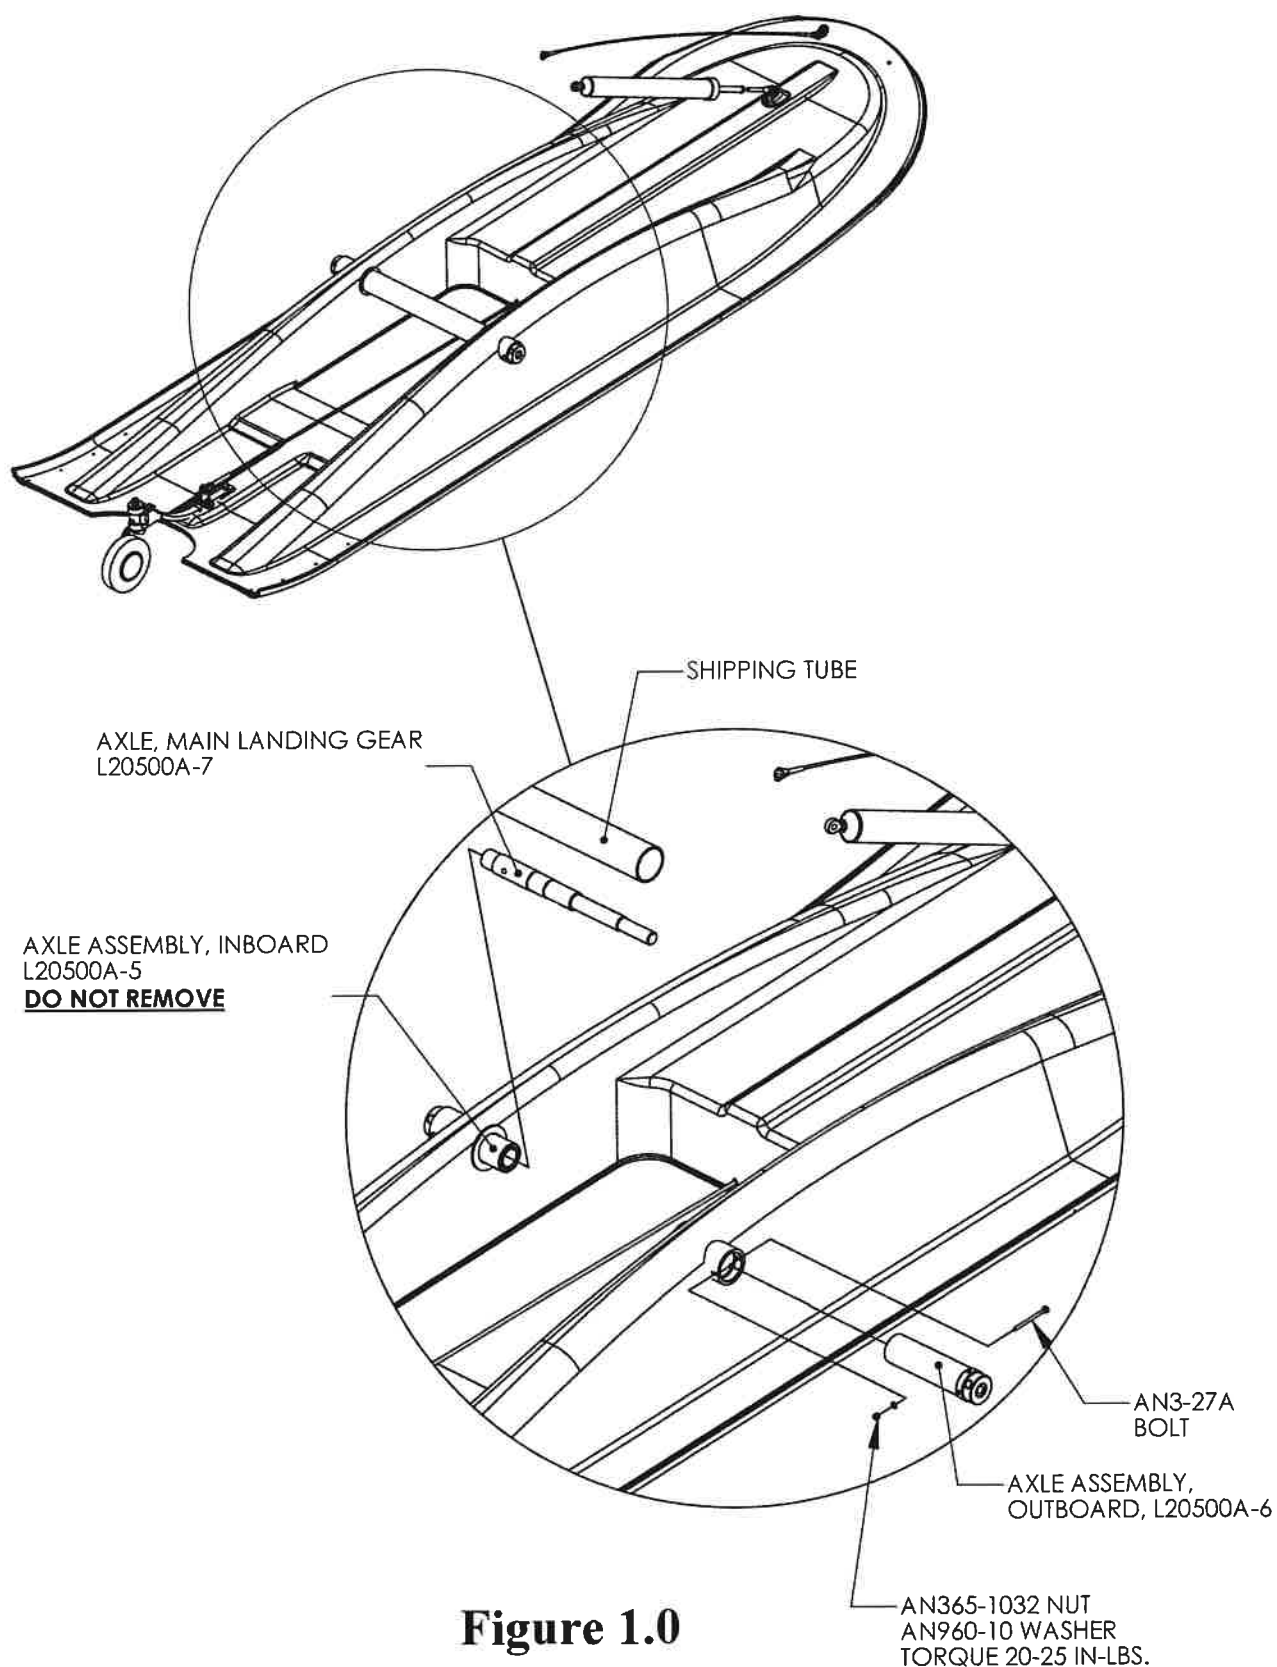

Figure 1.0
1. Remove and save hardware (AN3-27A bolt, AN960-10 Washer, and AN365-1032 Nut) holding the Axle Assy., Outboard (L20500A-6) in place. *See figure 1.0*
2. Slide Axle Assy., Outboard out of fitting in ski. *See figure 1.0*
3. Remove Shipping Tube covering the Axle, Main Landing Gear (L20500A-7). *See figure 1.0*
4. Remove the Axle (L20500A-7) *See figure 1.0*
5. DO NOT REMOVE AXLE ASSY., INBOARD. *See figure 1.0*